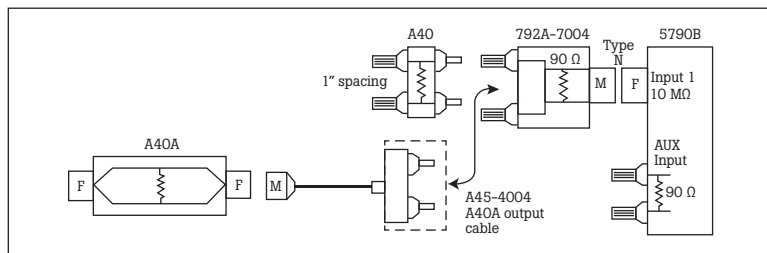
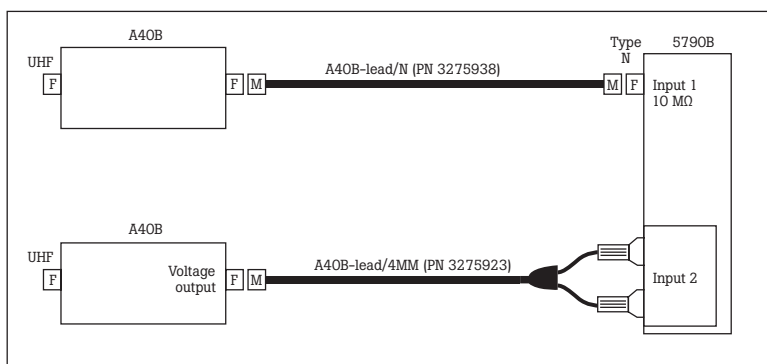

Figure 5. A40A connection example with adapters
Figure 6. A40B connection examples
An additional benefit that the A40B Current Shunts offer over the legacy A40 and A40A Current Shunts is the ability to make direct, adapter-free connections to the 5790B. If you worked with the legacy A40/A40A adapters, you understand the complexity of the connection as illustrated in Figure 5 and how much more measurement risk is present due to the need to take the cable uncertainties into consideration. Now, with the 5790B you can have more confidence in your current measurement by significantly reducing complexity. Figure 6 illustrates the connection simplicity of the A40B, which can either be connected directly to Input 1 (N-type coaxial) or Input 2 (standard terminal jacks). Connecting the A40B shunt directly to Input 1 eliminates cable and associated errors. Please note that if this is the preferred connection, consider the following to prevent damage to the equipment:
3. For the larger A40B shunts, there is not much clearance when the shunts are directly connected. In this case, Fluke Calibration recommends the use of one of the A40B-leads, shown in Figure 6; and not making a direct connection into Input 1.